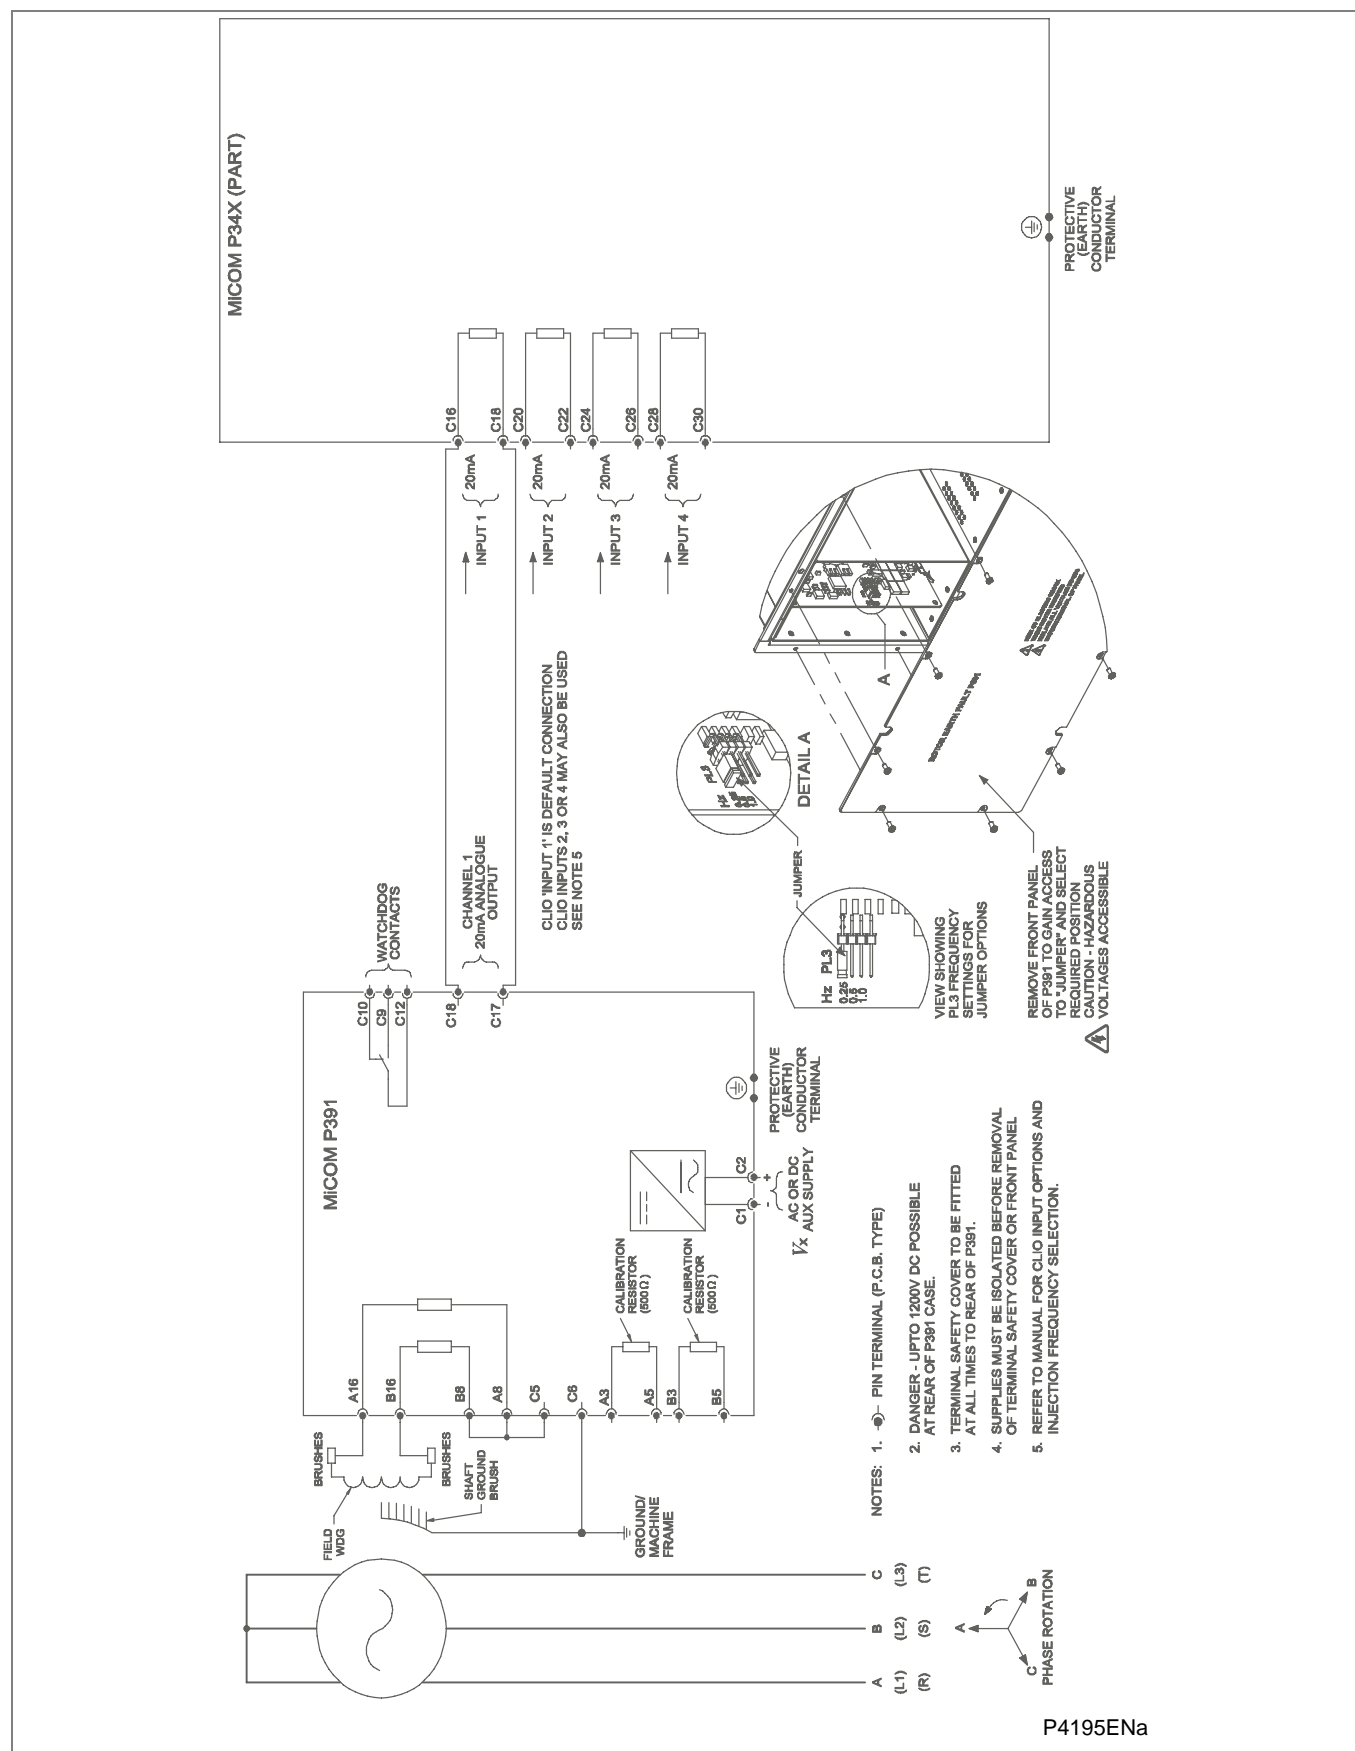

Figure 6 - P391 Rotor Earth Fault double ended field winding connection
- Figure 6 - P391 Rotor Earth Fault double ended field winding connection